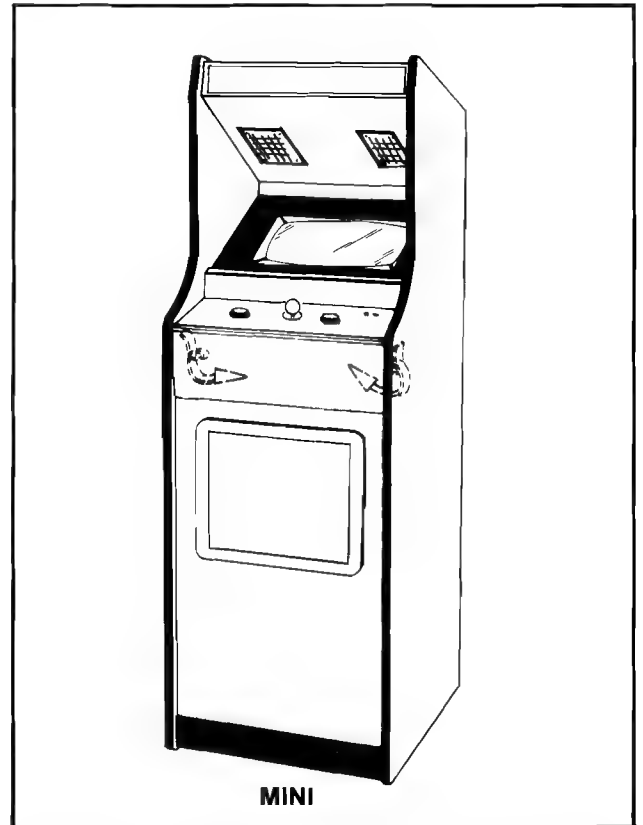

Figure 2-3 Opening the Control Panel - Mini
2.4.2 MINI MODEL: (See Figure 2-3)
- ❑ The control panel is held in place by two latches. See Figure 2-3.